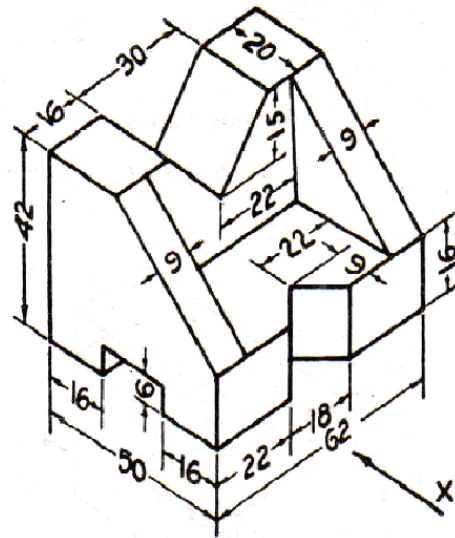

Figure 11
2. Draw the following View for Figure 11